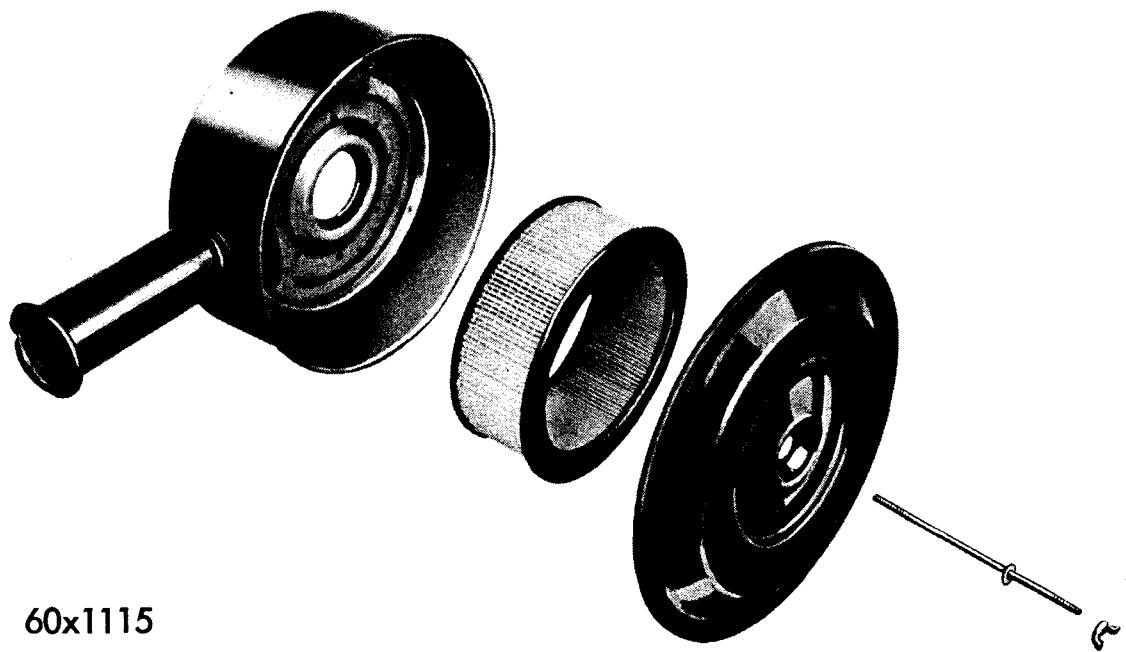

Figure 61 — Carburetor Air Cleaner (Paper Type)
Remove cleaner assembly, remove paper element, blow out dirt gently with an air hose. Direct air from inside out, and keep nozzle two (2) inches away from element to avoid damaging. Do not tap or immerse element in liquid. Wash the cleaner cover and body with cleaning solvent, such as kerosene and wipe dry (Fig. 61). Replace paper element, center and secure firmly. Replace cleaner assembly on engine. Replace paper element every 500 hours.